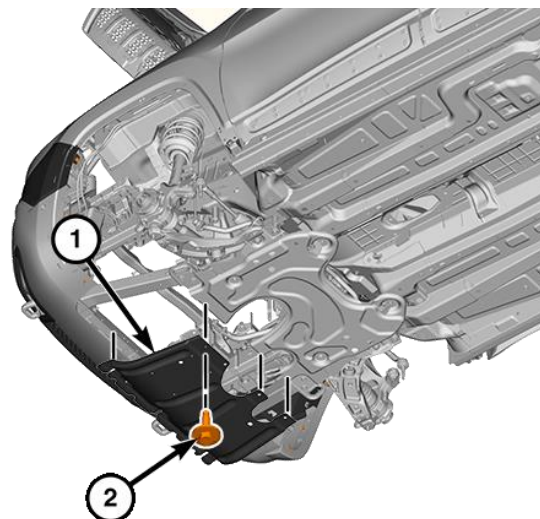

Figure 6 – Belly Pan / Skid Plate
- 11. Remove the fasteners (2) securing the front engine belly pan or front skid plate (1) to the underside of the vehicle, then remove the engine belly pan or skid plate (Figure 6).